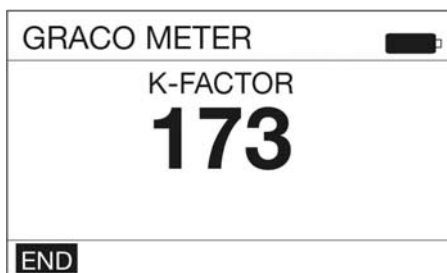

FIG. 17
- When **exactly** one quart or one liter of fluid is dispensed into the flask use the center ENTER button on the keypad to select END. A screen displaying the quantity of fluid dispensed displays (FIG. 17 shows an example of the dispensed volume screen).